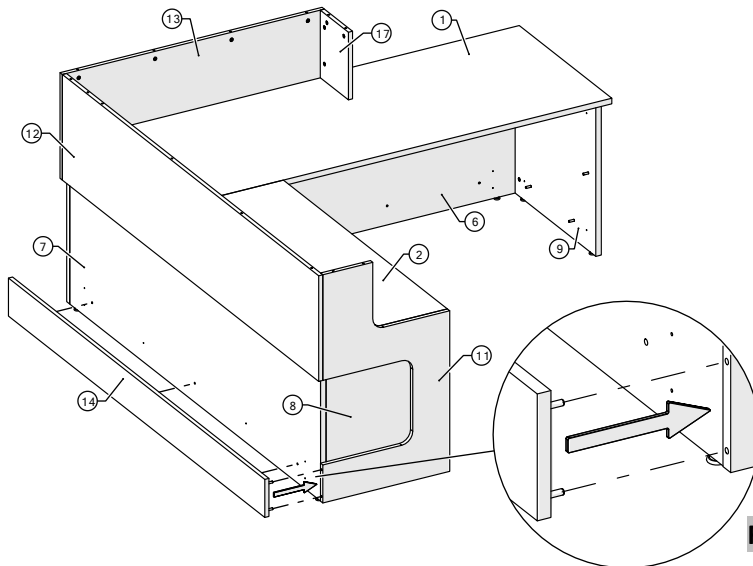

Figure 24
23. Position and align the border-bottom return with the modesty return and border-gable LH; connect the border-bottom return to the modesty return and border-gable LH, and press tightly together by inserting the wooden dowels into the bottom holes (Figure 24).